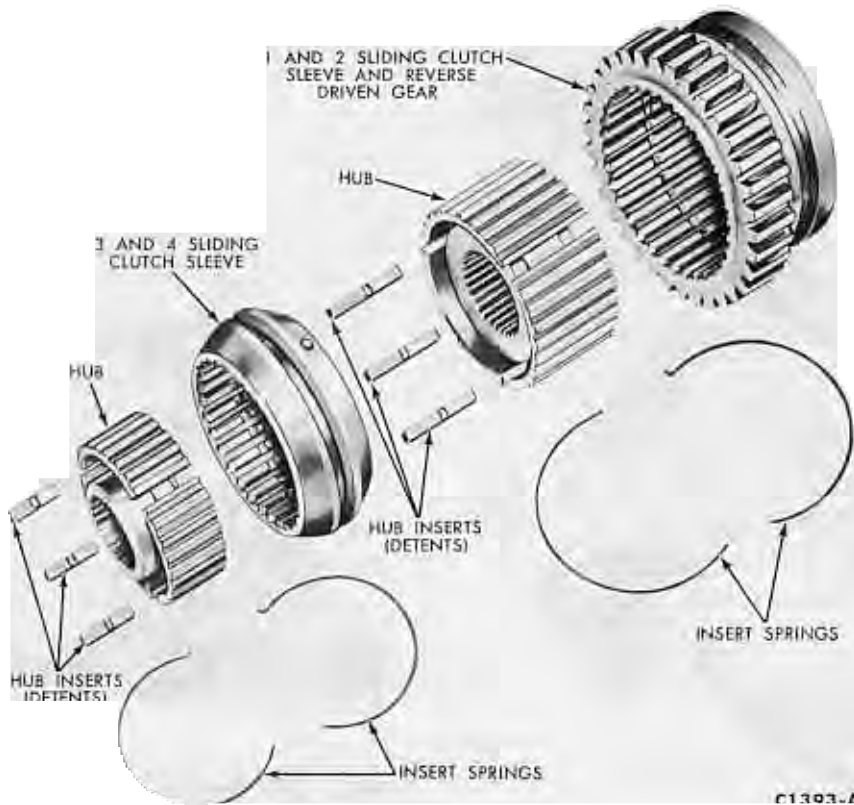

FIG. 15—Synchronizers Disassembled
2. Remove the front and rear insert springs from both synchronizer assemblies (Fig. 15).
4. Place the long inserts (detents) into the slots in the 1-2 synchronizer hub and slide the combination sleeve and reverse gear over it making sure that the etch or scribe marks on the hub and sleeve are aligned (Fig. 15). Snap the insert springs into place. The tab on each spring must set into the underside of an insert.